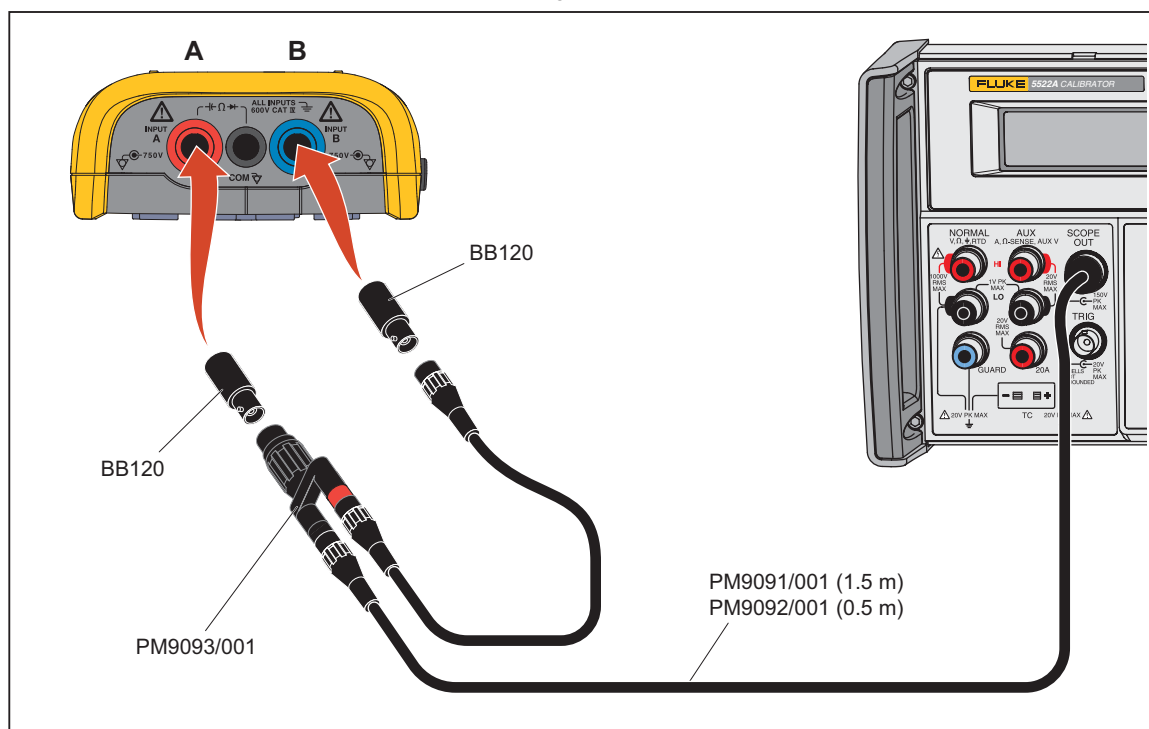

Figure 5. Test Tool Input A-B to Calibrator Scope Output
1. Connect the Test Tool to the Calibrator. See Figure 5.